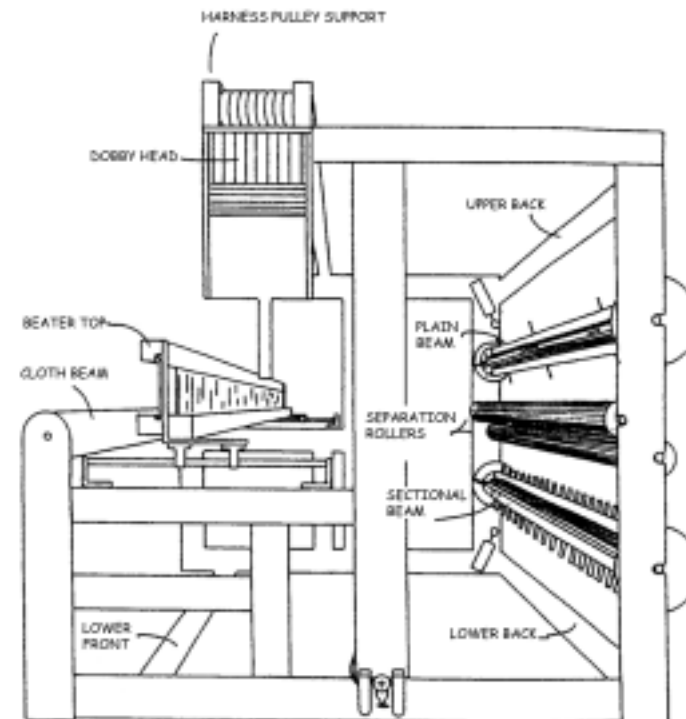

FIGURE 5
- 6.) Repeat for the right side frame. The frame will now stand un-supported (see *Figure 5*).
- 1.) Bring the Lower Front into position between the free-standing side frames. In this case, orient it so that the access holes face the floor (*Figure 5*).
- 4.) Place an additional block under the right end of the Lower Front (*Figure 5*).
- 4.) Identify the mounting holes in the Right Side Frame, align the bolts, and push the head into place (*Figure 5*).